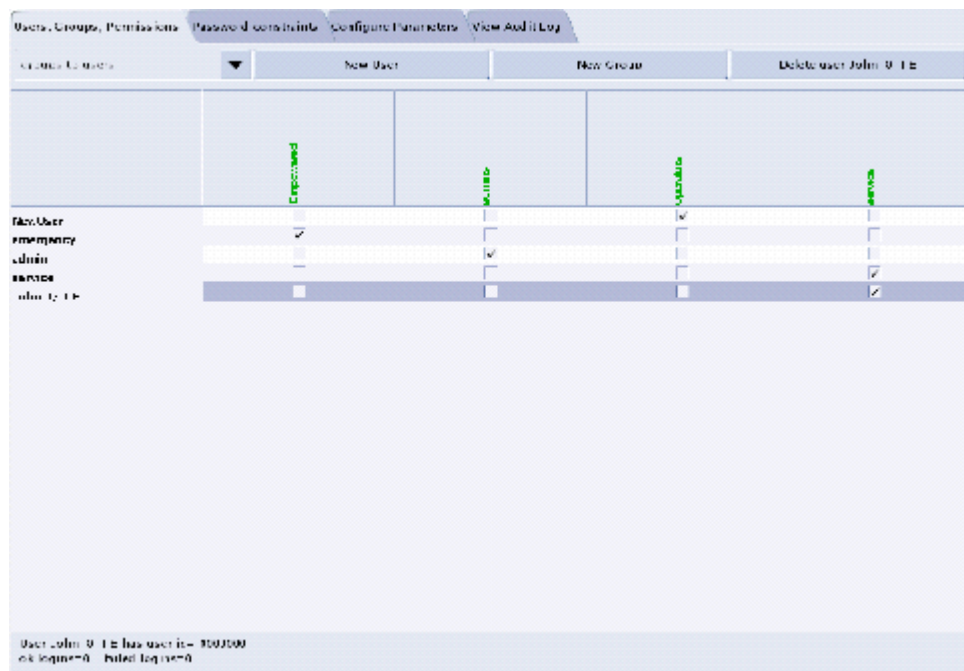

Figure 1-16 Using the User, Groups, Permissions screen
- 8.) If an account for a service user has been added, select `groups` to users from the pull-down menu, and assign the service user to group `Service` by selecting the check-box under `Service` in the row of the new user name, e.g., `John_Q_FE` (see Figure 1-16).